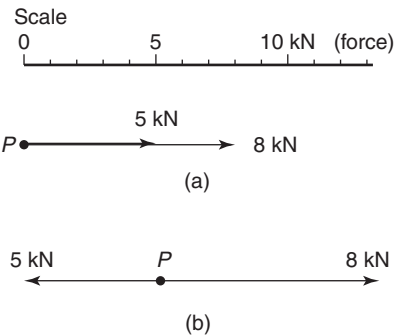

Figure 3.7
- (a) The vector diagram of the two forces acting in the same direction is shown in Figure 3.7(a), which assumes that the line of action is horizontal, although since it is not specified, could be in any direction. From above, the resultant force F is given by:
- (b) The vector diagram of the two forces acting in opposite directions is shown in Figure 3.7(b), again assuming that the line of action is in a horizontal direction. From above, the resultant force F is given by: